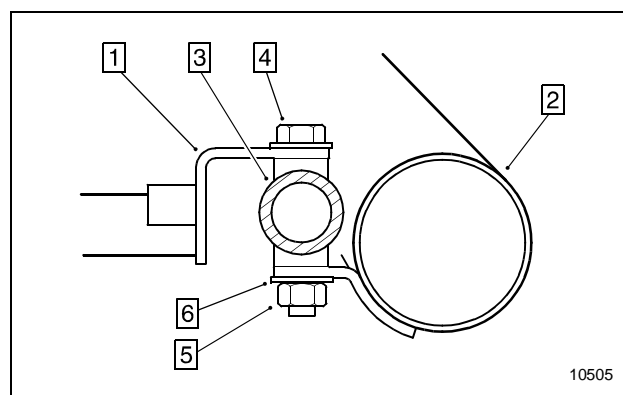

Figure 3
12. Loosely attach the front short-cut pipe to the front and rear mounting brackets (see Figure 3).